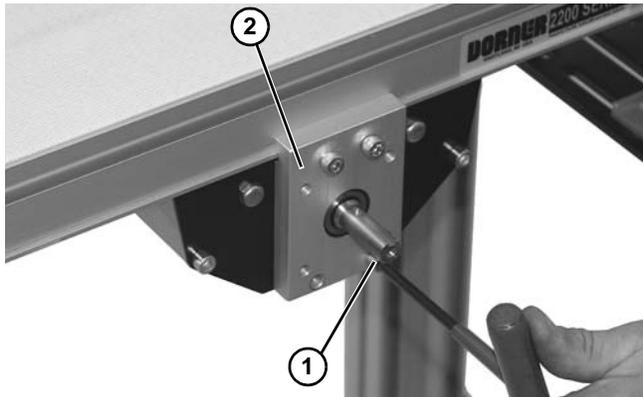
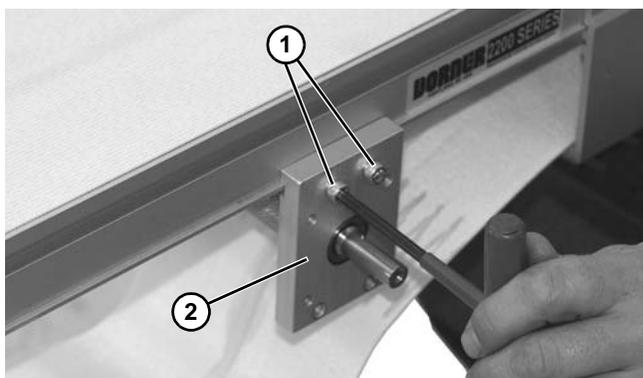

Figure 117
Figure 119
- Loosen one socket head screw (**Figure 117, item 1**) from each side of mounting block (**Figure 117, item 2**).
- Loosen two socket head screws (**Figure 119, item 1**) from each side of mounting block (**Figure 119, item 2**).
- Tighten socket head screws (**Figure 117, item 1**) and (**Figure 119, item 1**) to 60 in-lb (7 Nm).